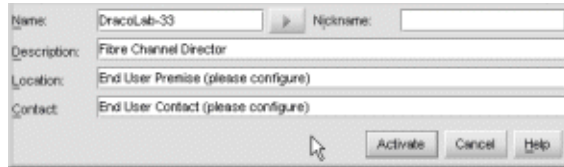

Figure 27: Configure Identification dialog box
1. At the **Hardware View** page, choose **Configure > Identification**. The Configure Identification dialog box displays, as shown in Figure 27.